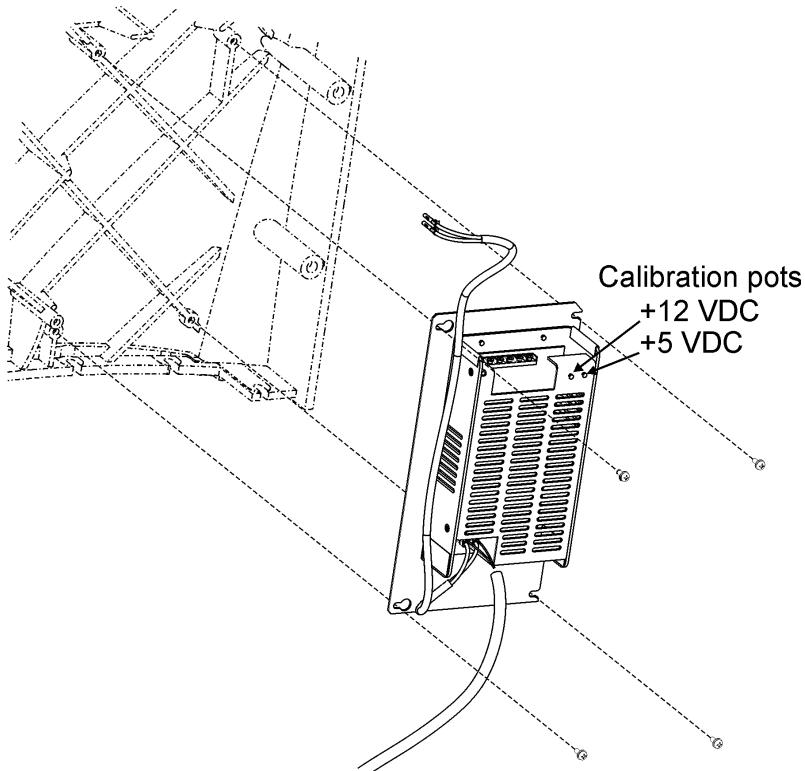
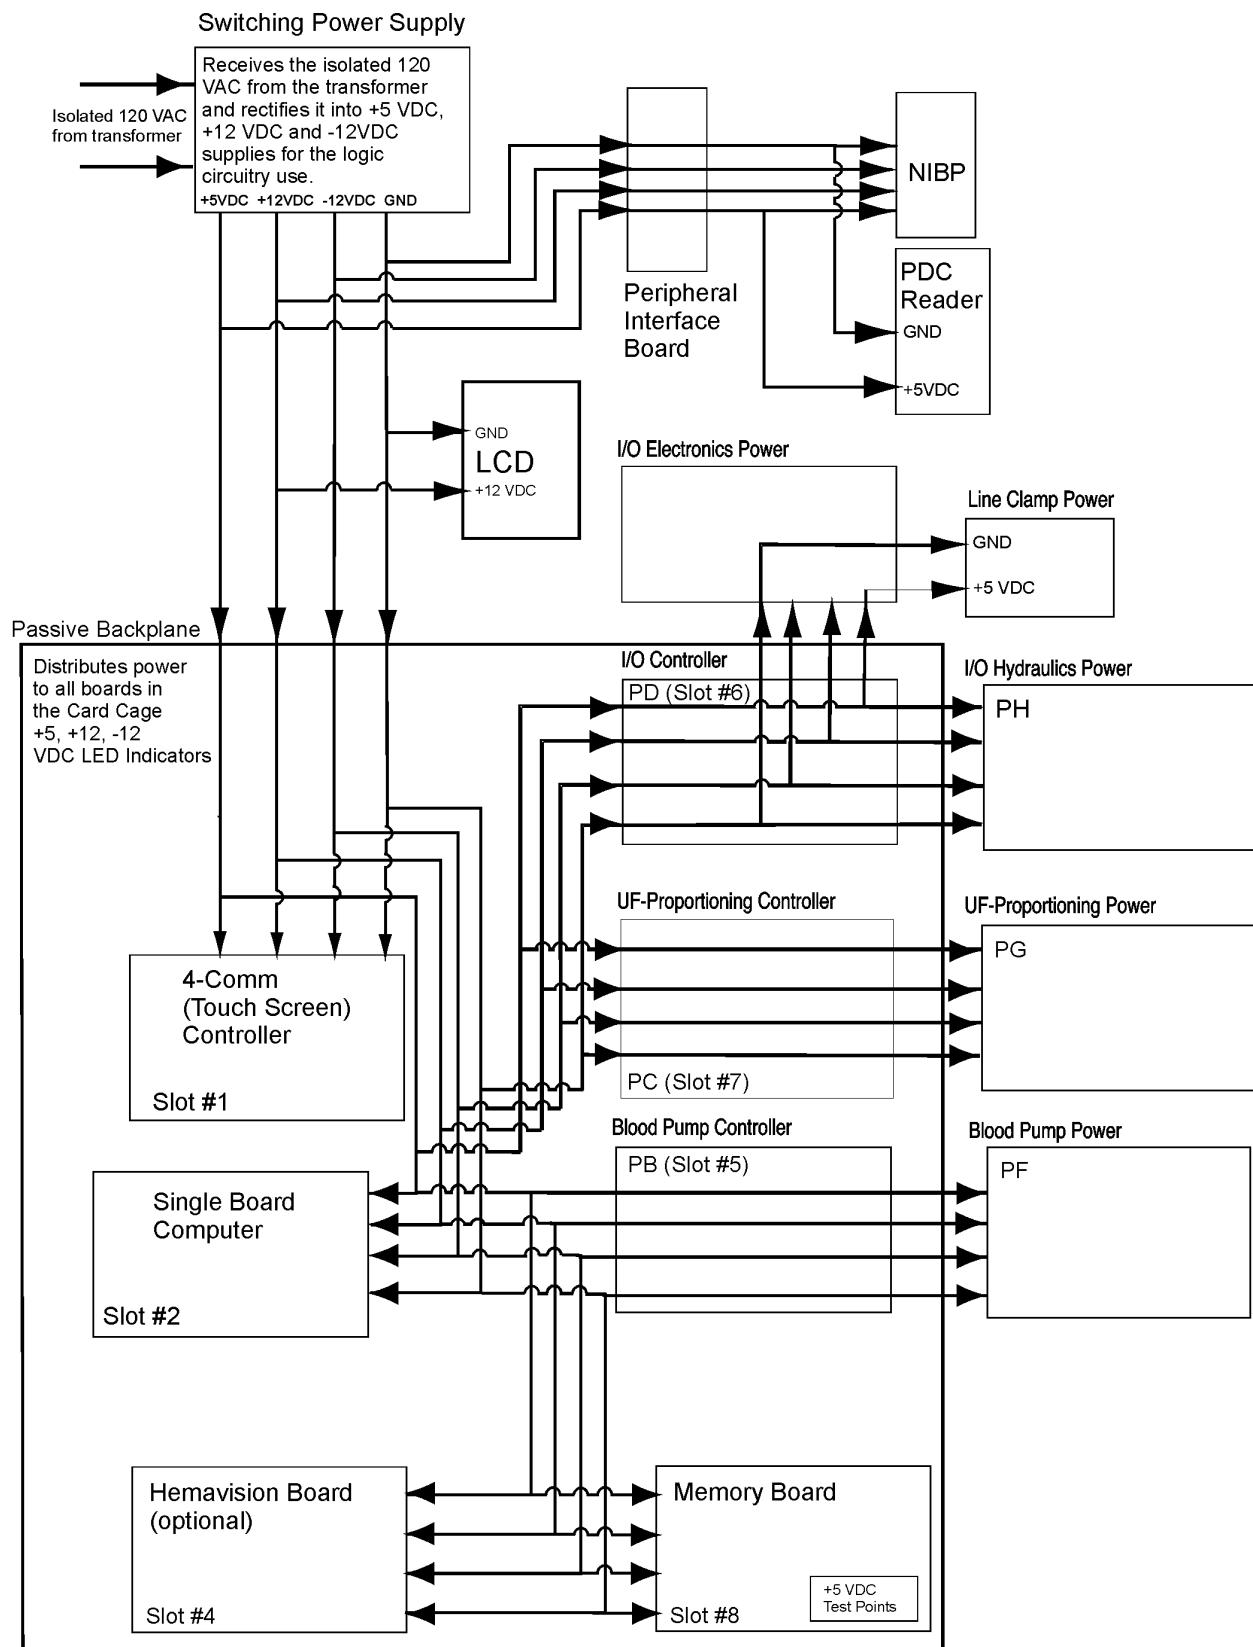

Figure 5-9. Switching Power Supply
Figure 5-10. Low Voltage Power Distribution
This power supply provides +5 VDC and ground for the digital circuits, and +12 and -12 VDC and ground for the analog signal conditioning circuits in all boards. Only the +5 and +12 VDC can be calibrated. (See Figure 5-9 for potentiometer locations.) The +5 VDC should be calibrated to between +5.00 and +5.05 VDC. These voltages are fed directly to the following boards (see Figure 5-10).
- Peripheral Interface Board (this board distributes power to the NIBP and PDC reader, see Figure 5-10)